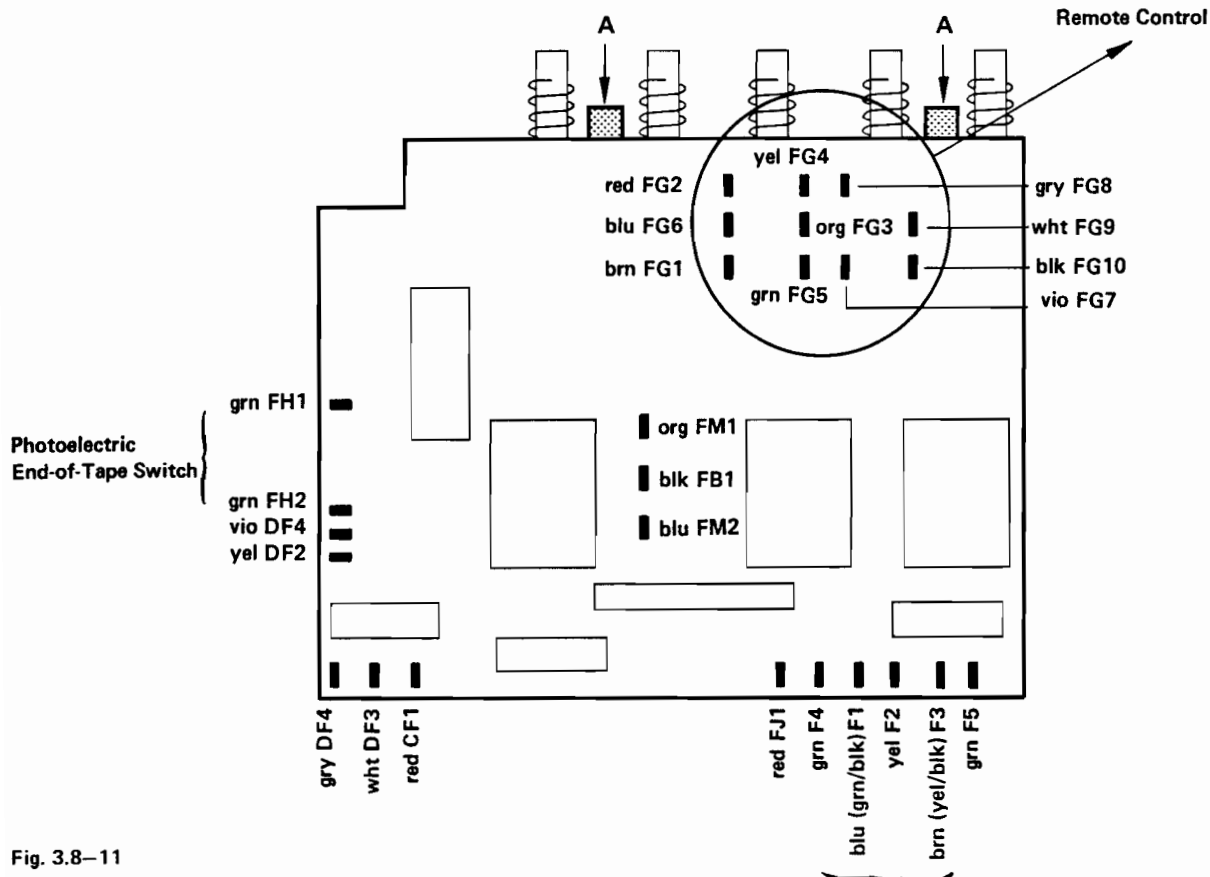

Fig. 3.8-11
- Undo screws A ( fig. 3.8-11 ). Pull control board downward.